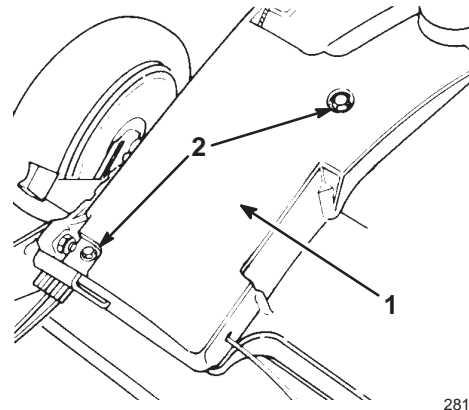

Figure 29
3. Remove the bolts that secure the belt cover to the lawn mower housing (Fig. 29).